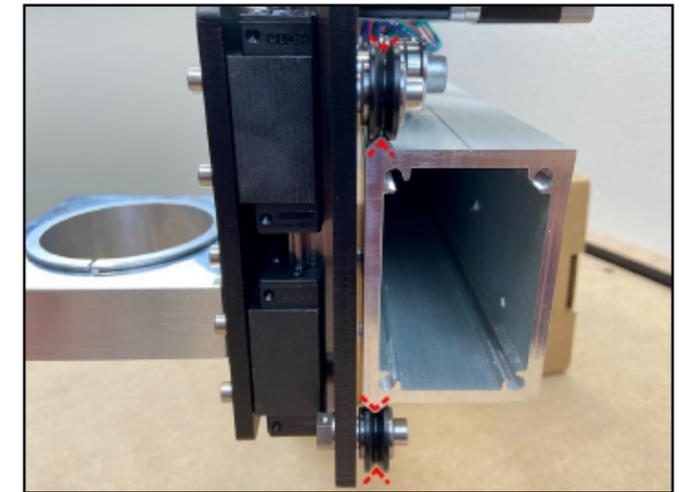

Figure 3-17
1. With the router mount facing front, line the four V-wheels up with the two V-rails, and slide the Z-Plus onto the open end of the X-rail. See **Figure 3-17**.